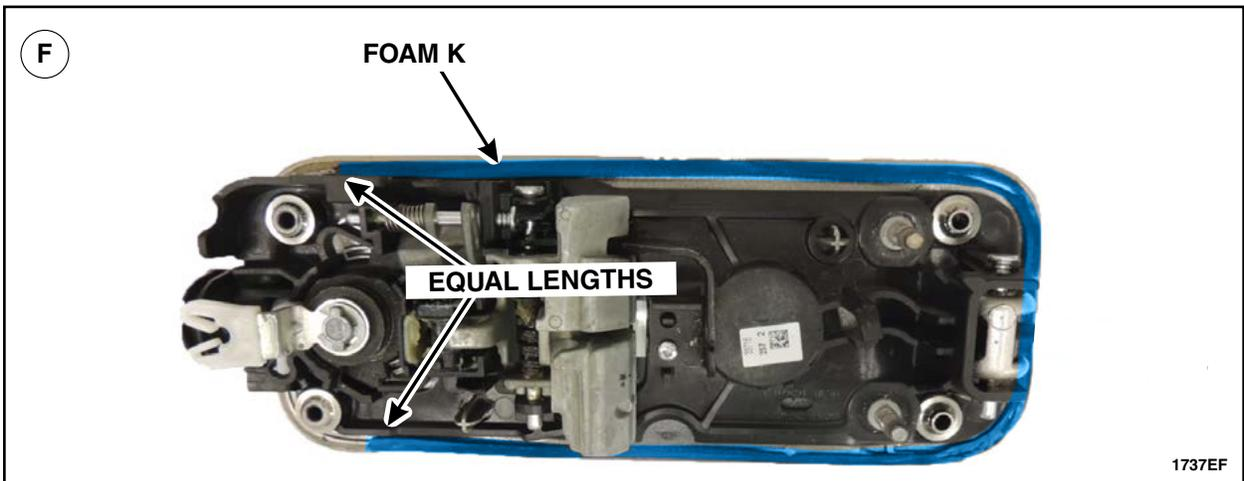

FIGURE 37
- F. Without stretching the foam adhere it to the exterior door handle ensuring that both sides of Foam K are of equal length once secured. See Figure 37.